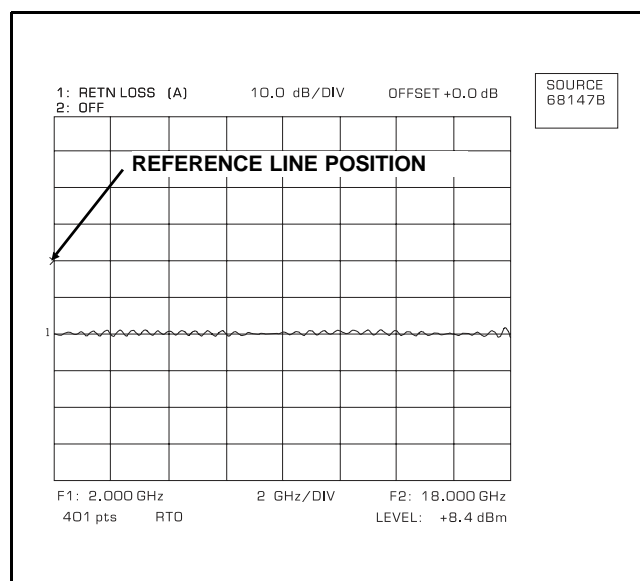

Figure 7. Reference Line Position
21. Using DATA ENTRY knob, set reference line to 4th graticule line from top (Figure 7).